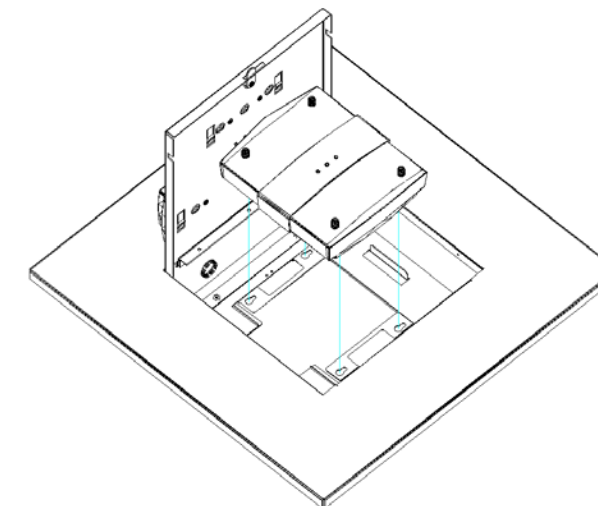

Figure 3 - AP Installation
Step 3 – Feed the Ethernet cable through the cable clamp and attach to the AP. Next, verify that the enclosure's locking plate is slid so that it is toward the outer wall of the enclosure. The AP should be aligned so that the three LEDs on the center panel are closest to the lock and the "Cisco Logo" is closest to the door hinge. Install the Cisco 1250 AP in the enclosure by aligning the feet of the access point with the key slots on the enclosure's mounting plate. Lower the AP onto the enclosure's mounting plate until you feel the AP's feet fall into the key slots (reference Figure 3).